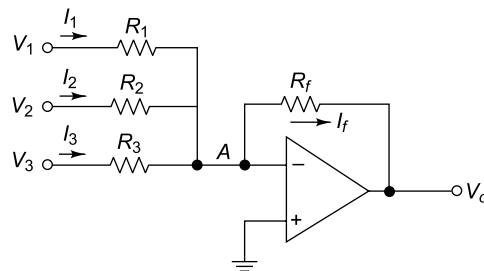

Fig. 5.87
22. Figure 5.87 shows an adder circuit with $V_1 = 2 \text{ V}$, $V_2 = -5 \text{ V}$ and $V_3 = 4 \text{ V}$. Determine the output voltage V_o . Assume $R_1 = 20 \text{ k}\Omega$, $R_2 = 10 \text{ k}\Omega$, $R_3 = 20 \text{ k}\Omega$ and $R_f = 10 \text{ k}\Omega$.